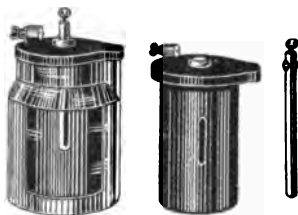

FIG. 222.—The Leclanché cell, "wet" type.
**249. The Leclanché cell** is the one commonly used for ringing door bells. It has two plates: one of zinc and the other of *carbon*. These are placed in a solution of sal ammoniac (Fig. 222). Take up the desirable qualities mentioned at the end of the preceding paragraph. (a) It may be shown that this cell has a good E.M.F. about 1.5 volts. (b) It *polarizes* easily yet it recovers well when left upon open circuit. Usually a substance called manganese dioxide is mixed with the carbon. This acts as a *depolarizer* that is, it combines with the hydrogen to form water (c) Its resistance varies and is often considerable. (d) The expense for upkeep is small, since a